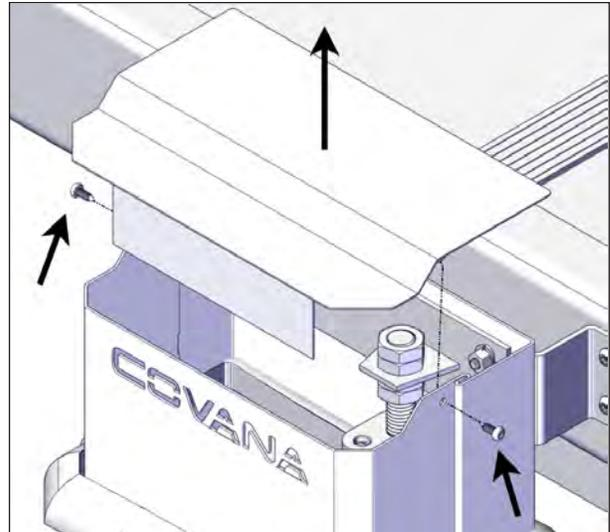

FIGURE 123: TOP PLATE REMOVAL
2. Remove the #2 Robertson screws (2) on the top plate of each post, see Figure 123. Keep the top plates and the screws in a safe location.